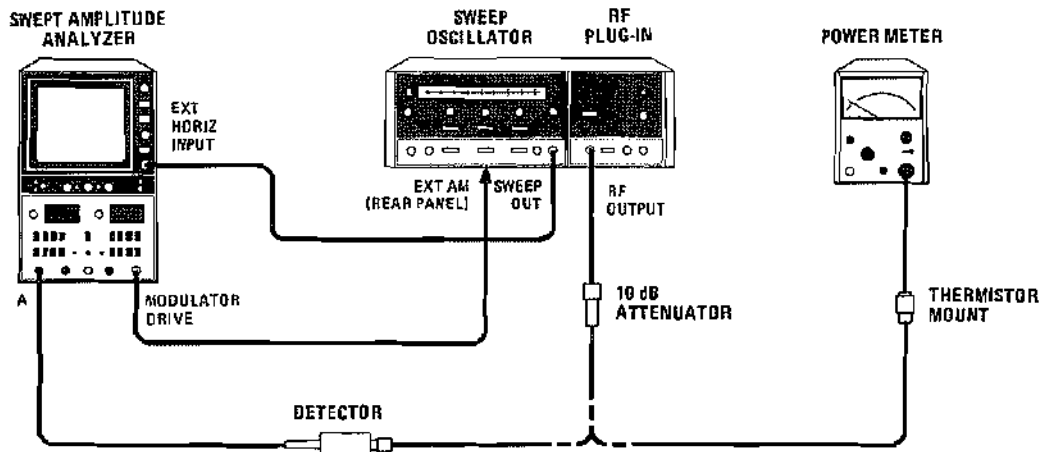

Figure 5-8. Leveling OFF Adjustment Test Setup
- a. Connect equipment as shown in Figure 5-8 with power meter connected to RF OUTPUT. Do not connect 8755B MODULATOR DRIVE.
- a. Connect equipment as shown in Figure 5-8 with 8755B connected to RF OUTPUT through 11664A Detector.